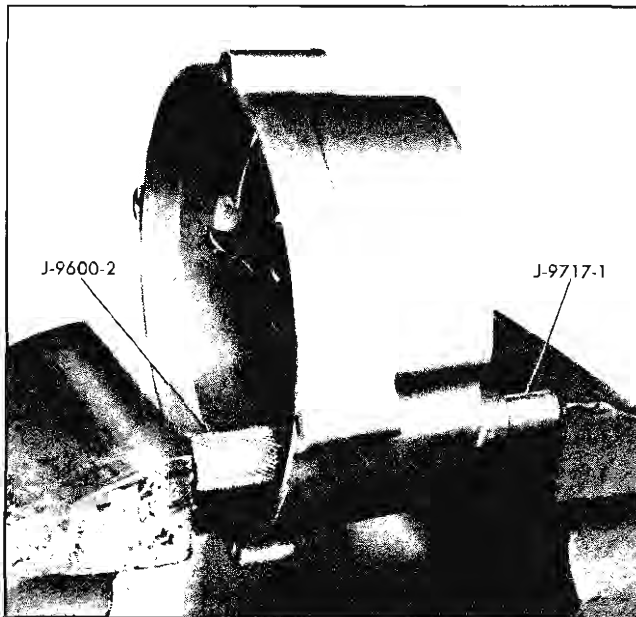

Fig. 11-20 Installing Diode
4. Place slip ring end frame in a vise so that new diode is in position and remove J-9717-1 supports casting (Fig. 11-20).